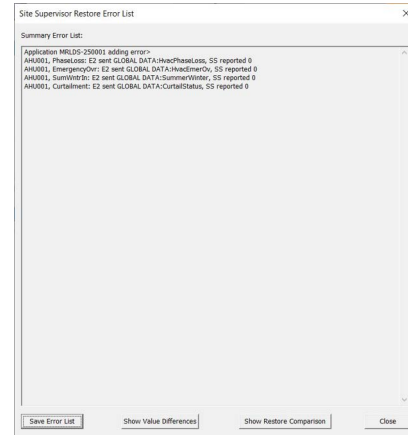

Figure 16 - Site Supervisor Restore Error List
- You must do a side-by-side comparison of the E2 backup file and the newly converted Supervisor file to verify there are no errors. It will be necessary to review all setpoints and alarms for consistency in addition to the error log report and restore comparison log (see **Figure 16**) that is generated at the end of the conversion process to ensure your new system will run properly.
7. When completed, a **Site Supervisor Restore Error List** (**Figure 16**) will display and contain a Summary Error List of any of the following: